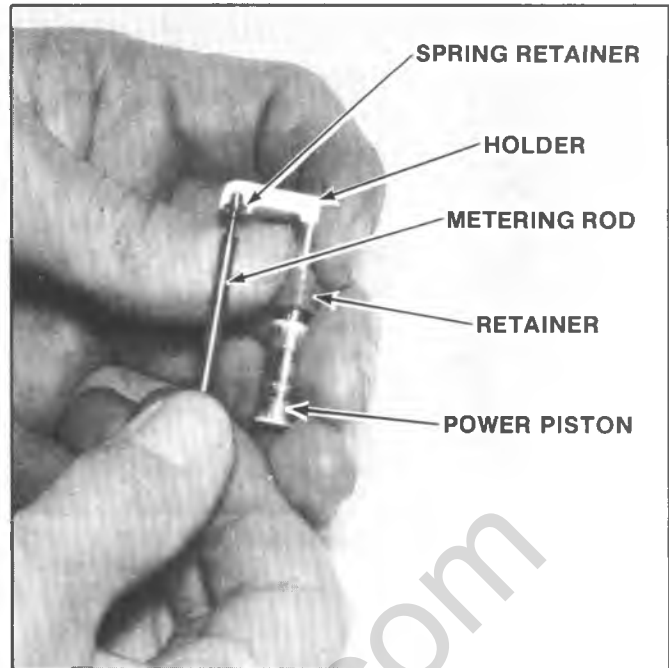

Fig. 6C2-28--Power Piston Assembly
5. Remove intermediate choke shaft and lever assembly from float bowl by sliding rearward out throttle lever side (Fig. 6C2-31).